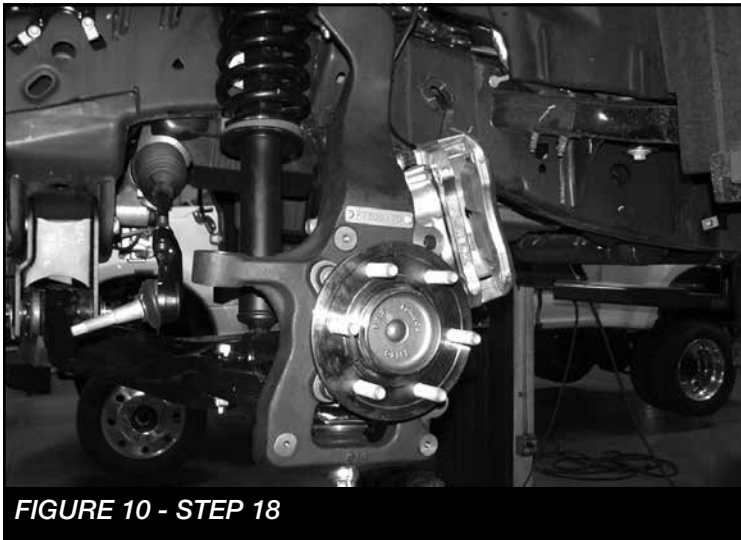

FIGURE 10 - STEP 18
18. Attach the new Fabtech spindle onto the lower ball joint using the original nut and provided spacer tied to the knuckle. Torque to 85 ft-lbs. Holding the top of the spindle inboard set the upper ball joint into the spindle. Attach the upper ball joint to the spindle using the factory nut. Torque to 110 ft-lbs. **SEE FIGURE 10**